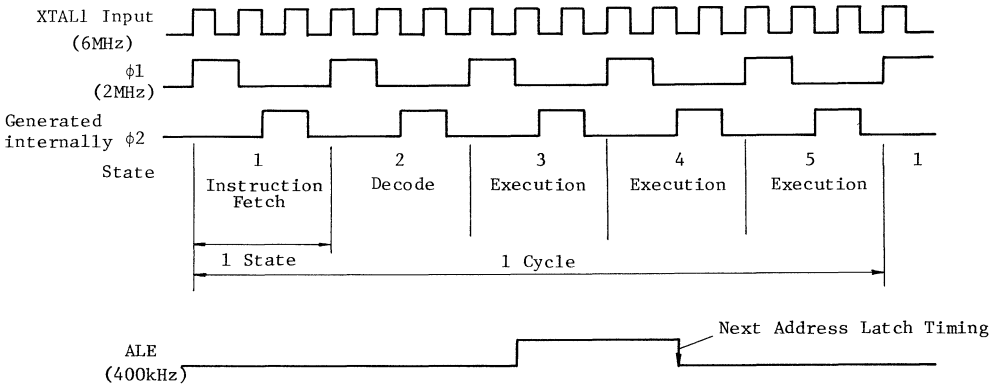

Fig.4 Instruction Cycle Timing
(1) Instruction Cycle
- Fig.4 illustrates its relationship with the clock input to CPU.
- ϕ_2 clock shown in Fig.4 is derived to outside by ENTO CLK instruction.
(2) External Memory Access Timing